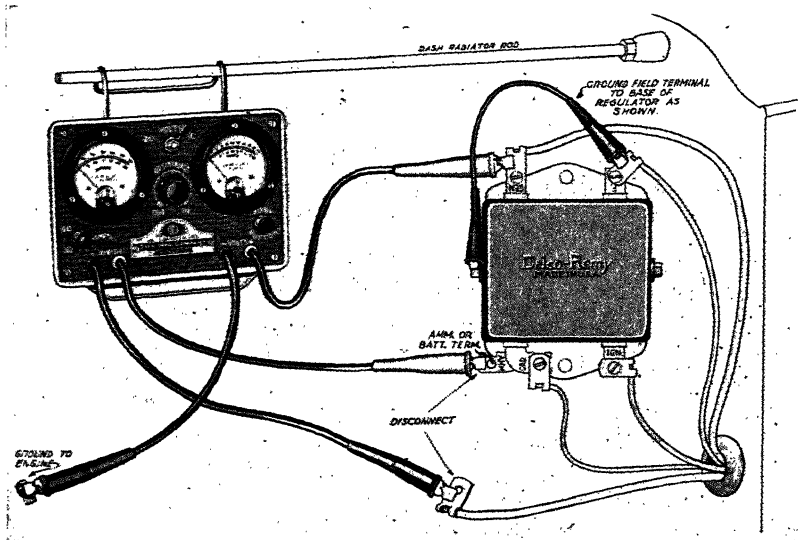

Fig. 14. Connection for Testing Generator Output with Volt-Ampere Tester
*Checking the Generator with a Volt-Ampere Tester.* Before checking the generator, the generator charging circuit and ground circuit should be checked. Connect the volt-ampere tester, as shown in Fig. 14. Disconnect the lead from the battery (Batt.) or am-
meter (Amm.) terminal of the regulator, connecting the positive ammeter lead to the battery or ammeter terminal of the regulator and the negative ammeter lead to the disconnected battery or ammeter lead. Connect the positive (Red) voltmeter lead to the generator (Gen.) terminal of the regulator, and ground the negative voltmeter lead (Black) to the vacuumatic spark control tube at the distributor. Set engine speed for maximum generator output (approximately 30 to 35 miles per hour). Ground the field (F) terminal of the regulator with a jumper lead, as shown in Fig. 14, to eliminate the regulator resistance.